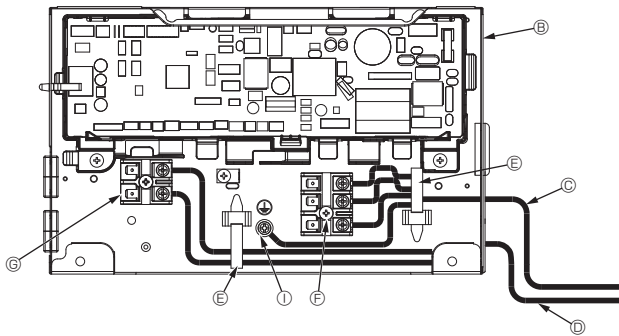
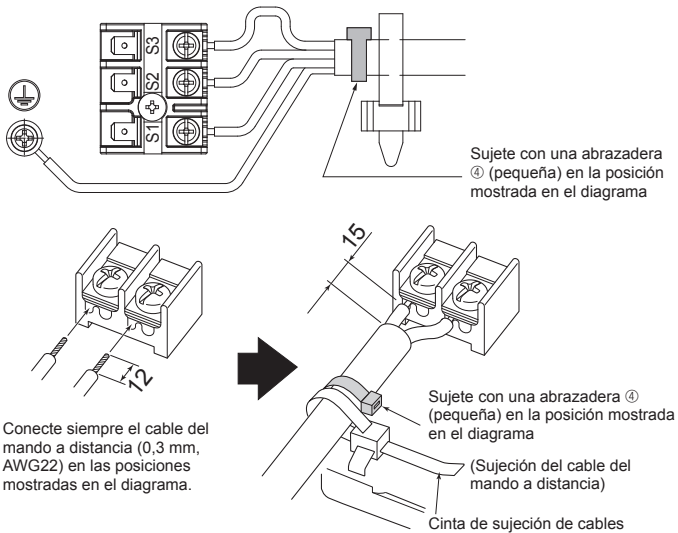

Fig. 7-2
Fig. 7-3
7.2. Unidad interior (Fig. 7-1) (Fig. 7-2) (Fig. 7-3)